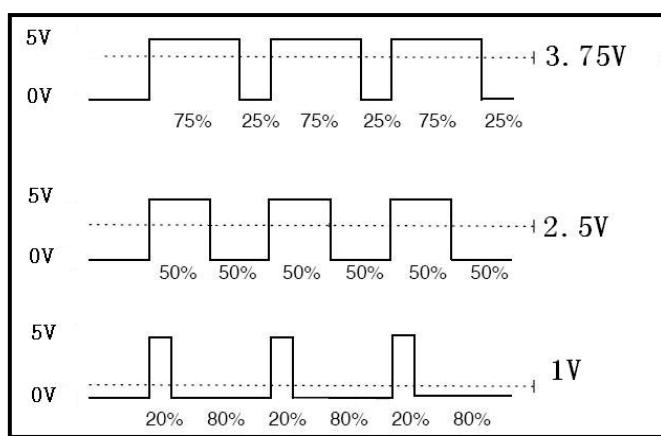

Figure 4-4-2 Pulse vs. Voltage
In the Arduino, the analog voltage cannot be output, and only the digital voltage value of 0 or 5V can be output. We use the high-resolution counter to modulate the square wave's duty cycle to the level of a specific analog signal. Encode. The PWM signal is still digital because at any given time, the full-scale DC supply is either 5V (ON) or 0V (OFF). The voltage or current source is applied to the analog load in a repeating pulse sequence of ON or OFF. When the DC power is applied to the load, the power is disconnected when the power is turned off. Any analog value can be encoded using PWM as long as the bandwidth is sufficient. The output voltage value is calculated by the on and off times. Output voltage = (on time / pulse time) * maximum voltage value, Figure 4-4-2 is the voltage corresponding to the pulse change.